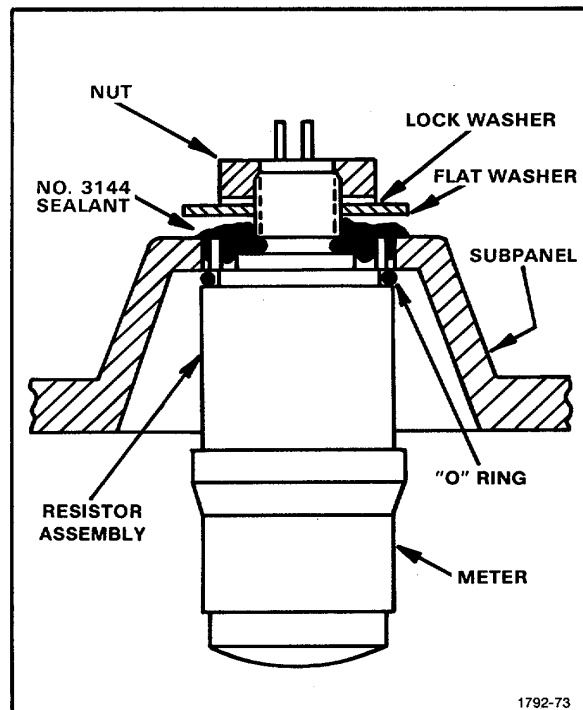

Figure 5-20. Installation of Distance Meter.
**19. Install the DISTANCE METER in the Front Panel (see Fig. 5-20)**